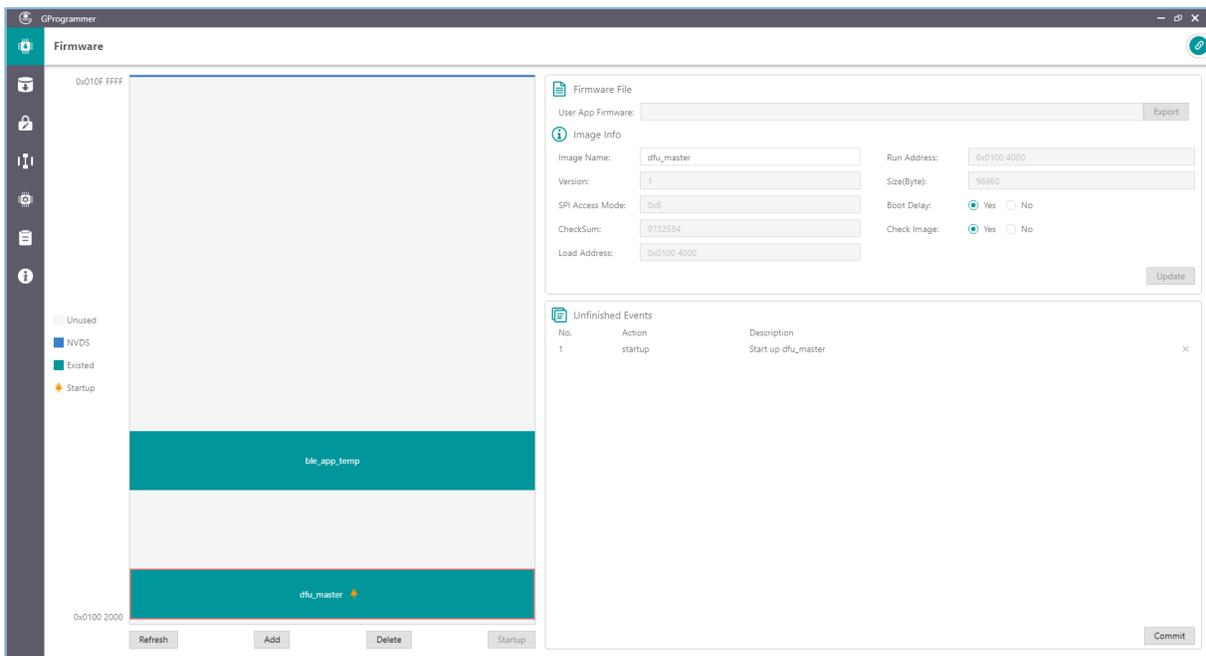

Figure 6-5 Downloading the dfu_master firmware and the firmware for upgrade
- (2) The default load address and run address of the dfu_master firmware are FLASH_START_ADDR + 0x2000. Download the dfu_master firmware to the device, and store the firmware for upgrade on the device as well.
- (3) Refer to “Section 4.3.3 Creating Target Firmware for Upgrade” to create the target firmware for upgrade. The load address and run address of the target firmware are FLASH_START_ADDR + 0x30000. Take GR551x for example. Download the dfu_master firmware and the firmware for upgrade to the device, as shown in Figure 6-5.